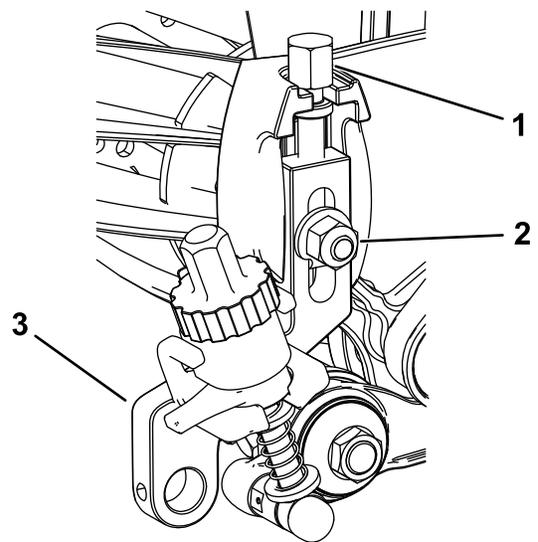

Figure 18
1. Thread the previously removed height-of-cut adjusting screws into the top of the height-of-cut assemblies (Figure 18).
2. Install the height-of-cut assemblies to the cutting unit side plates using the previously removed plow bolt, nut, and special washer (Figure 18).